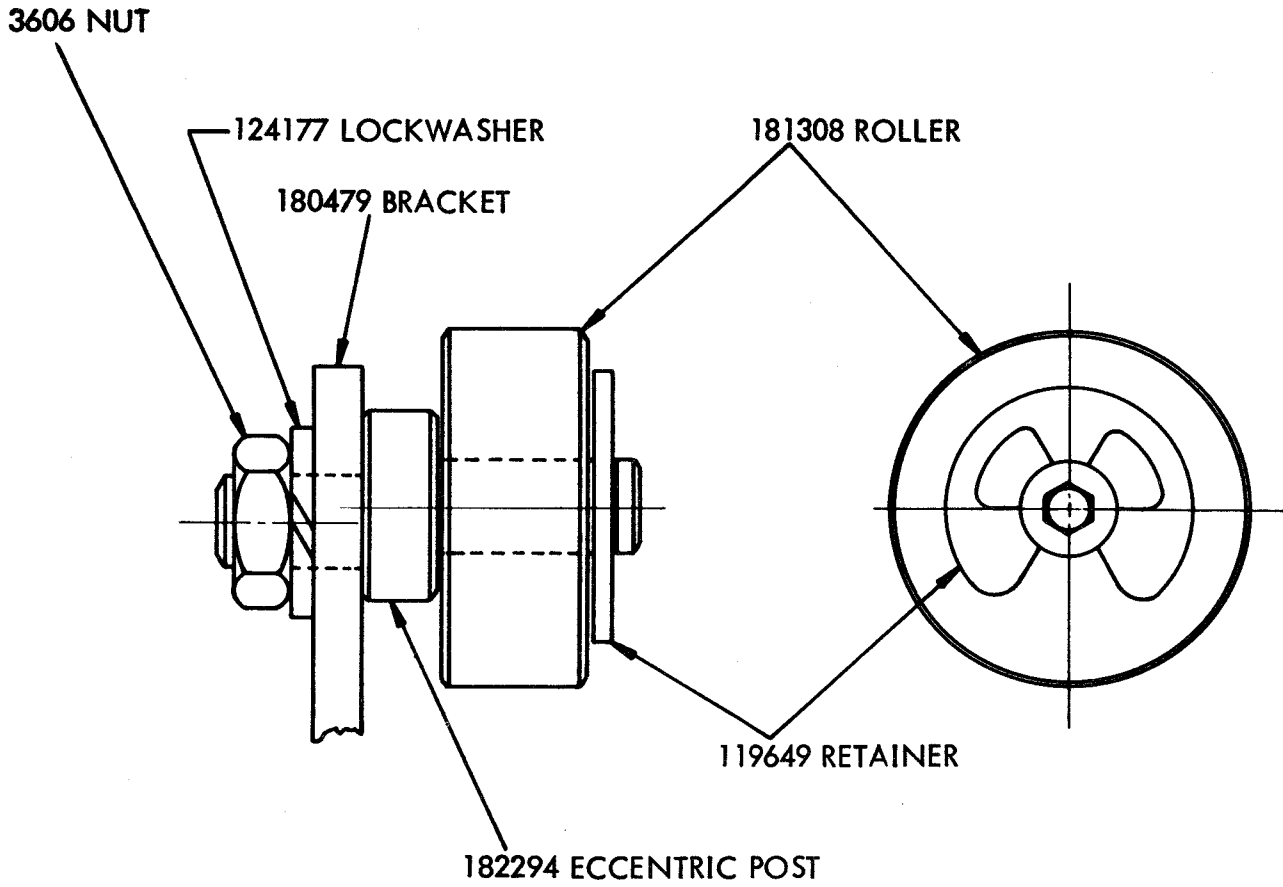

FIGURE 2
e. Assemble the 181308 roller, 182294 eccentric post and 119649 retaining ring supplied in this kit to the carriage lower plate mechanism using the 3606 nut and 124177 lockwasher previously saved. (See Figure 2)